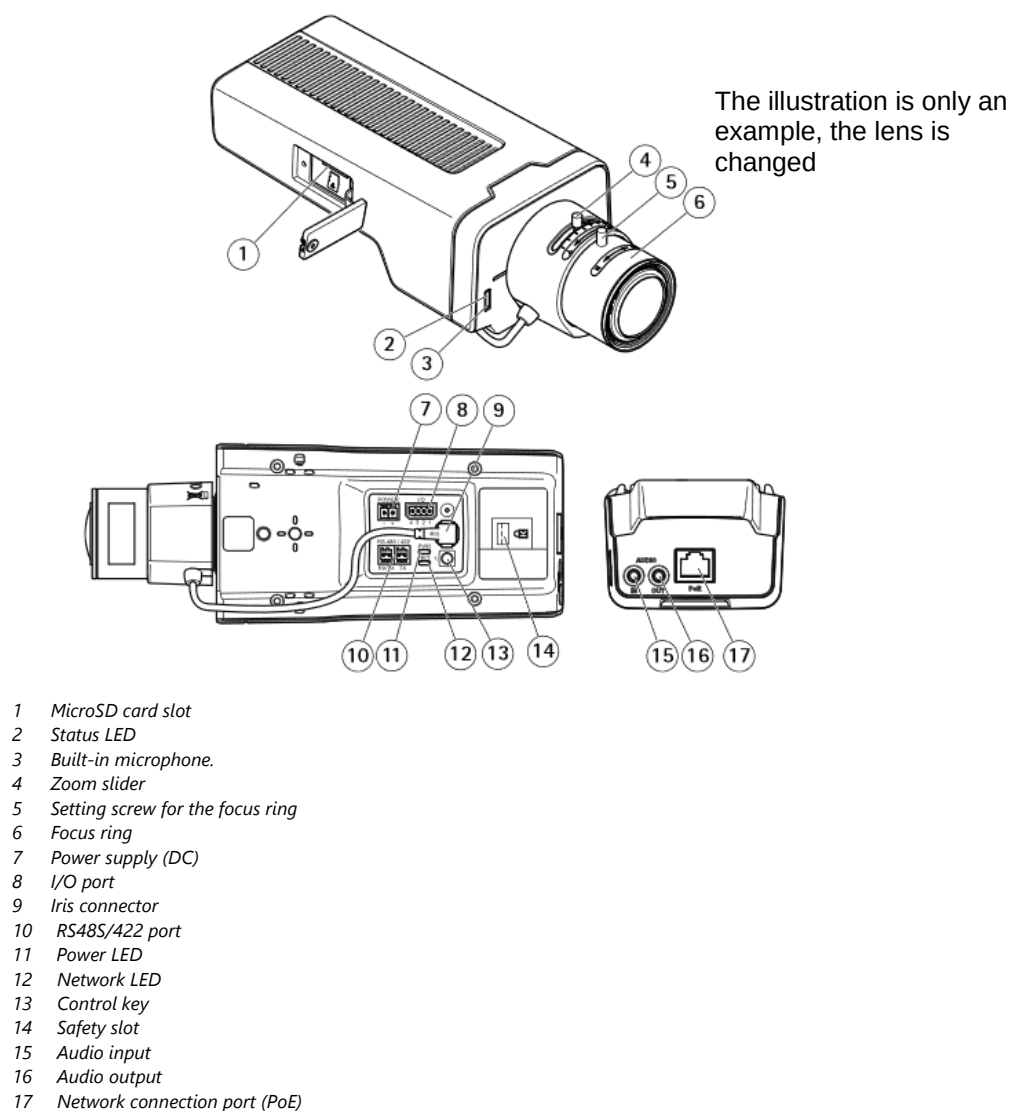

Fig. 6-4. Mounting adapter with built-in components
The RoughCam IPP1377 disposes of a micro SDHC memory card slot (see Fig. 6-4 1). Saved video files can be played and deleted via the web interface. They are also available in a download list. Moreover, the videos available on the memory card can also be accessed via an FTP server in the network.
The user can see the Status LED (Fig. 6-4) only if the camera housing is open.
3. Press and hold the control button until status indicator 2 (Fig. 6-4) lights yellow (wait about 30 seconds).